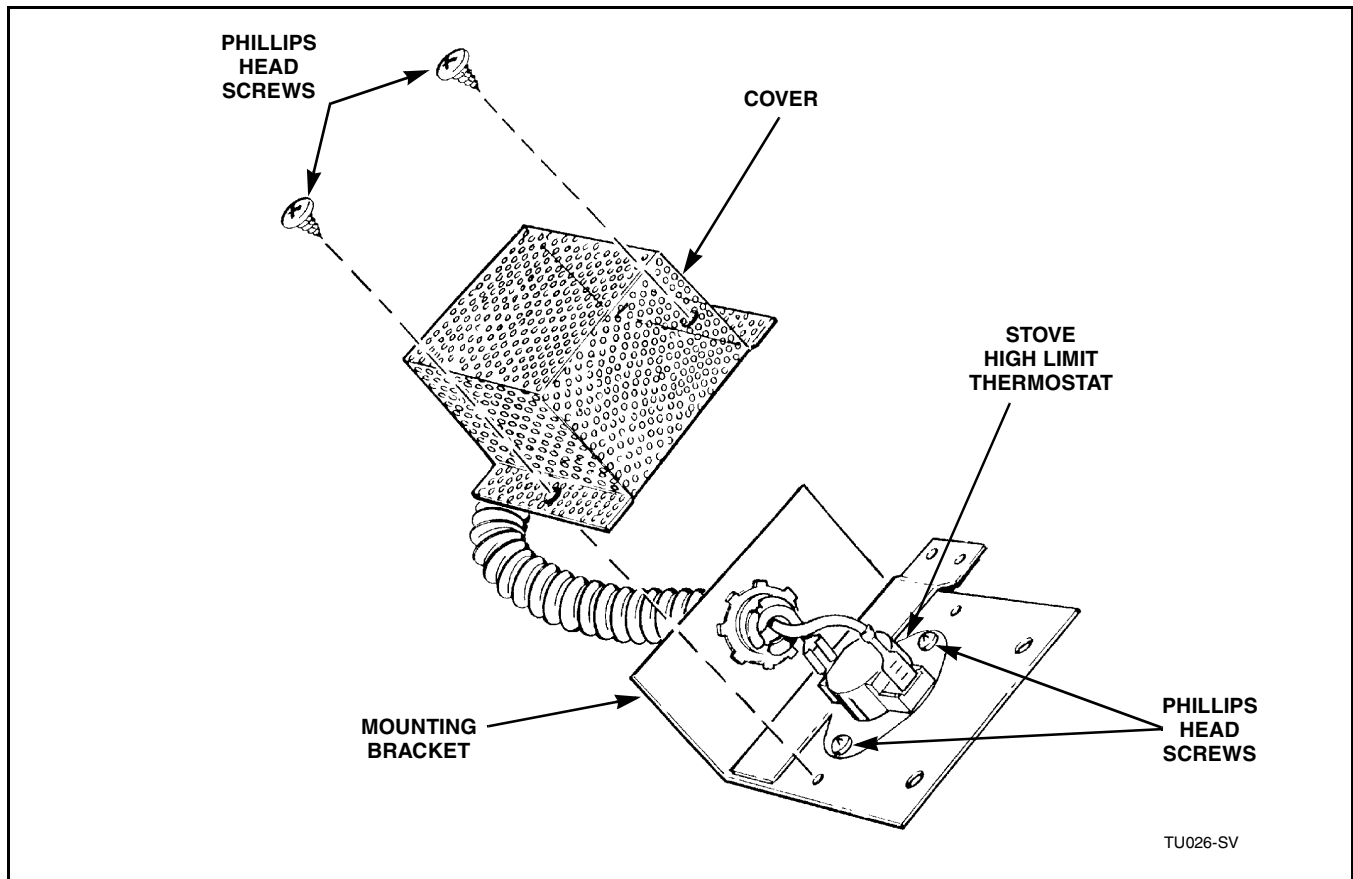

Figure 29
- g. Remove two screws holding cover to mounting bracket. Refer to *Figure 29*.
- i. Remove two screws holding thermostat to mounting bracket. Refer to *Figure 29*.
- b. Disconnect wires from thermostat. Refer to *Figure 29*.
- c. Disconnect wires from thermostat. Refer to *Figure 29*.